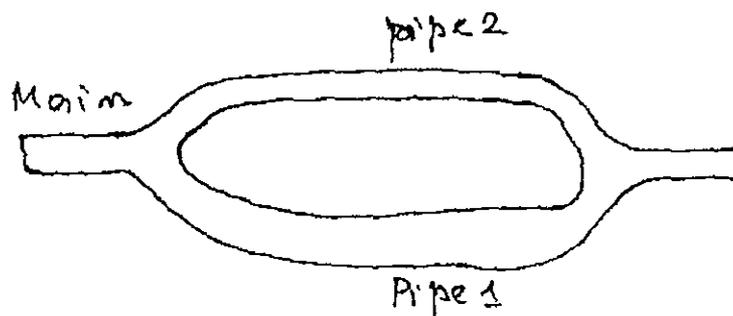

Fig. 5
- (b) (i) An oil of viscosity $0.02 \text{ N}\cdot\text{s}/\text{m}^2$ is flowing between two stationary parallel plates 1 m wide and at 10 mm apart. The velocity midway between the plates is 2 m/s . Compute the pressure gradient along the flow, average velocity and the discharge of oil. (8)
- (ii) A main pipe line divides into two parallel pipes as shown in Fig. 5. The length and diameter of first parallel pipe are 2000 m and 1 m respectively while the length and diameter of second parallel pipe are 2000 m and 0.8 m respectively. Find the rate of flow in each parallel pipes if the total flow in the main is $3 \text{ m}^3/\text{s}$. The coefficient of friction for each parallel pipe is same and equal to 0.005 . (8)